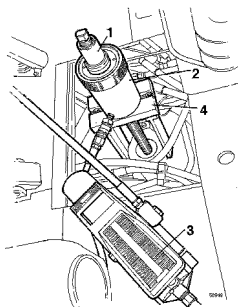

Figure 6
13. Fit the tools on the upper pin according to Figure 6 and pull out the pin.